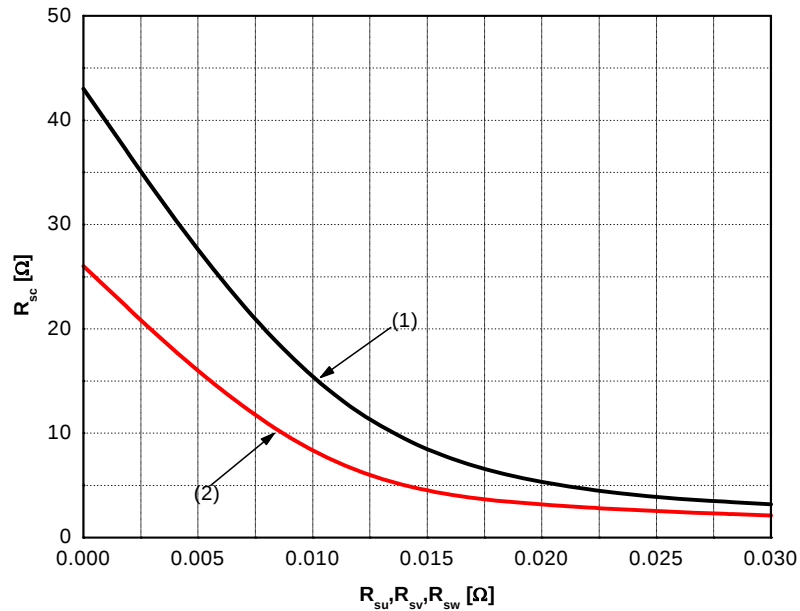

Figure 6. R_{sc} Variation by Change of Shunt Resistors (R_{SU} , R_{SV} , R_{SW}) for Short-Circuit Protection
- Short-circuit protection is functioning only at the low-sides. It would be recommended that the value of the external sensing resistor (R_{SC}) should be selected around 26 Ω in order to make the SC trip-level of about 100A, at the shunt resistors (R_{SU}, R_{SV}, R_{SW}) of 0 Ω. For the detailed information about the relationship between the external sensing resistor (R_{SC}) and the shunt resistors (R_{SU}, R_{SV}, R_{SW}), please see Figure 6.